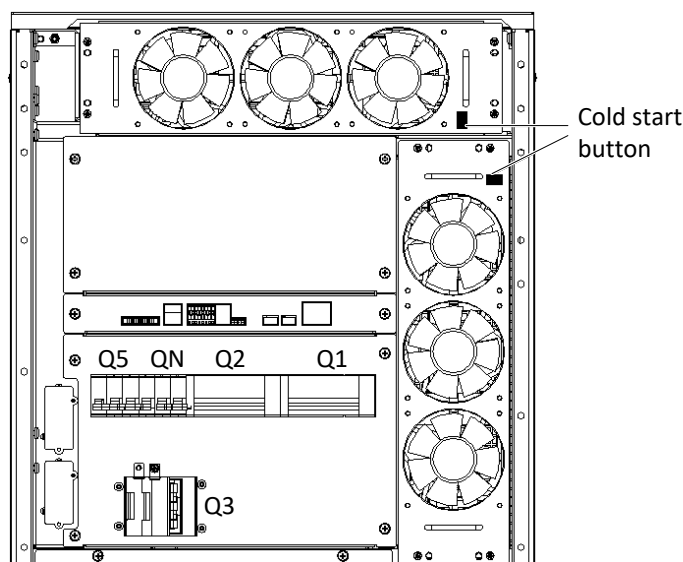

Figure 5-1 UPS power switch
Opening the front door of the UPS cabinet reveals the power switches, as shown in Figure 5-1, including:
2. Open the UPS front door, press and hold any battery cold start button for 2s (see Figure 5-1 for its position). Now, the system is powered on, and the startup screen is displayed. Refer to 4.2.1 Start-up Screen.